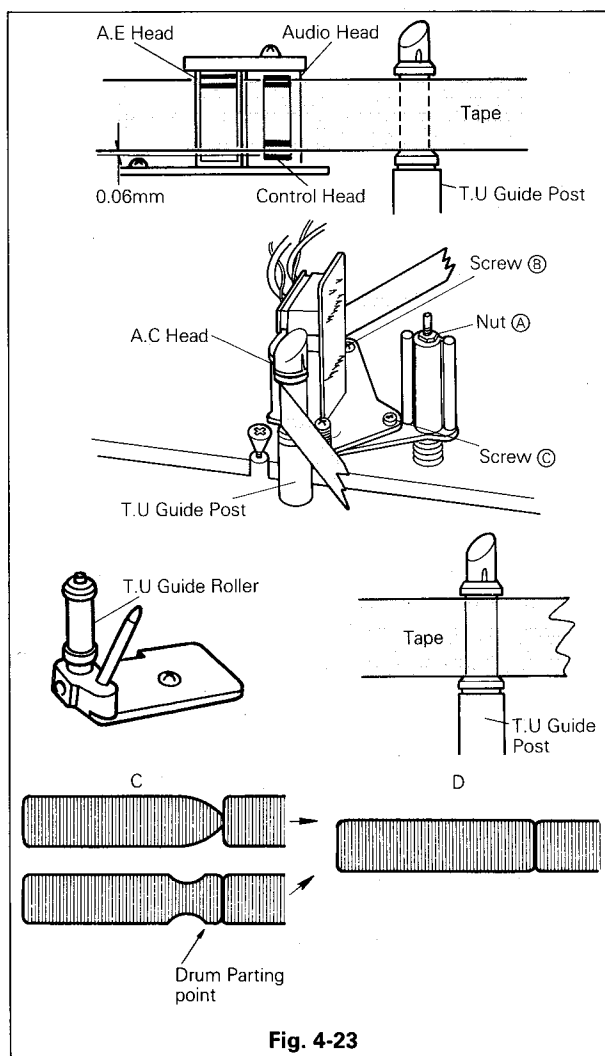

Fig. 4-23
K. Adjust the waveform at the drum exit point by the same method as for the drum meeting point. If the FM waveform is like, for instance, "C" of Fig. 4-23, adjust the take-up guide roller so that the waveform will be flat like "D".
L. If the tape is parted or creased at the take-up guide post, adjust screw (C) of the audio/control head shown in Fig. 4-23.
M. At the same time, rotate the audio/control head height adjusting nut (A) and adjust the head height according to the tape. Determine whether the tape should be raised or lowered according to the criteria shown in Fig. 4-23.